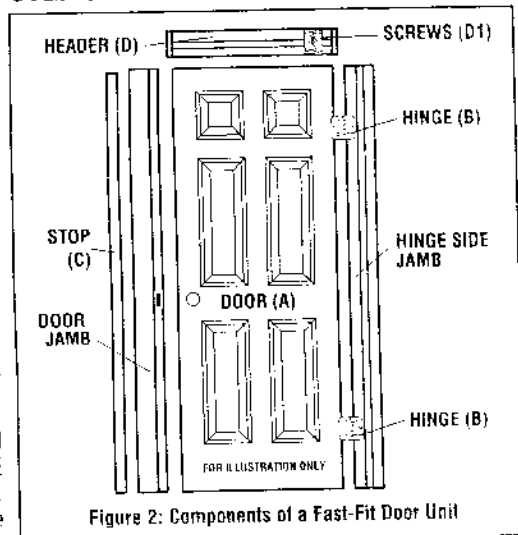

Figure 2: Components of a Fast-Fit Door Unit
- 1) Door (A) comes pre-machined for a 2-3/4" backset 2 hinges and interior passage set (Fig. 2).
- 2) Hinge-side jamb (B) with door stop attached. The hinge locations are pre-cut to accept the reversible butt hinges.
- 3) Lock-side jamb mortised for the strike plate. This jamb is reversible and the doorstop (C) is easily changed depending on the swing of the door.
- 4) Header (D) pre-drilled with door stop attached. A bag of four 1" screws (D1) is attached to the header. These screws are for attaching the header to the jamb.